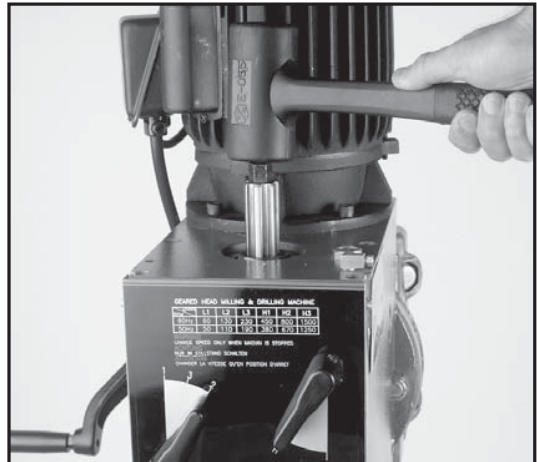

Figure 4
2. Tap on the top of the drawbar with a mallet. See Figure 4.